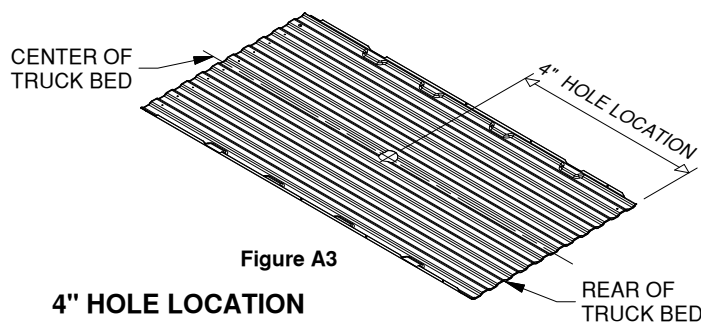

Figure A3
6. **Mark the 4" hole location.** Using a tape measure hooked over the rear edge of the bed (at tailgate end), measure the location for the hole as shown in Figure A3. Next, locate the center of the bed by measuring the distance between the wheel wells and dividing by two. The center of the hole will be at the intersection of the center of the bed and the first distance measured.